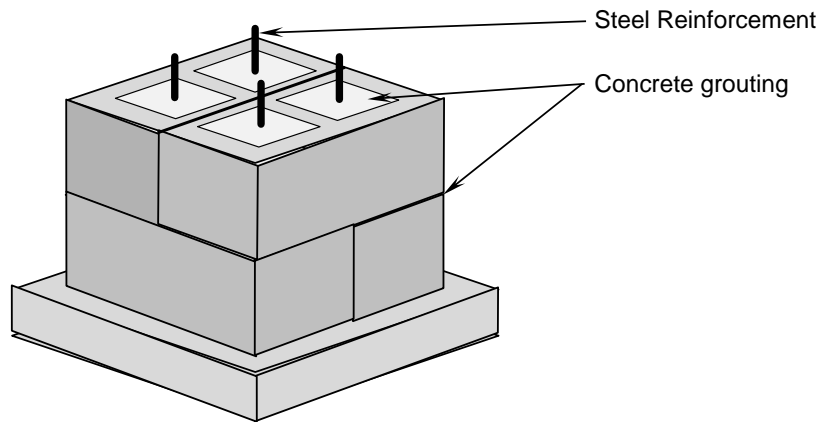

Figure 6 - Double Interlocking Pier Block Design for Piers over 36 Inches in Height
1. Piers greater than 36 inches in height shall be of the Double Interlocked design and all open cells shall have at least one #4 vertical steel reinforcement and shall be filled with concrete grout. Vertical steel shall have hooks poured into the footing beneath. See Figure 6 below.